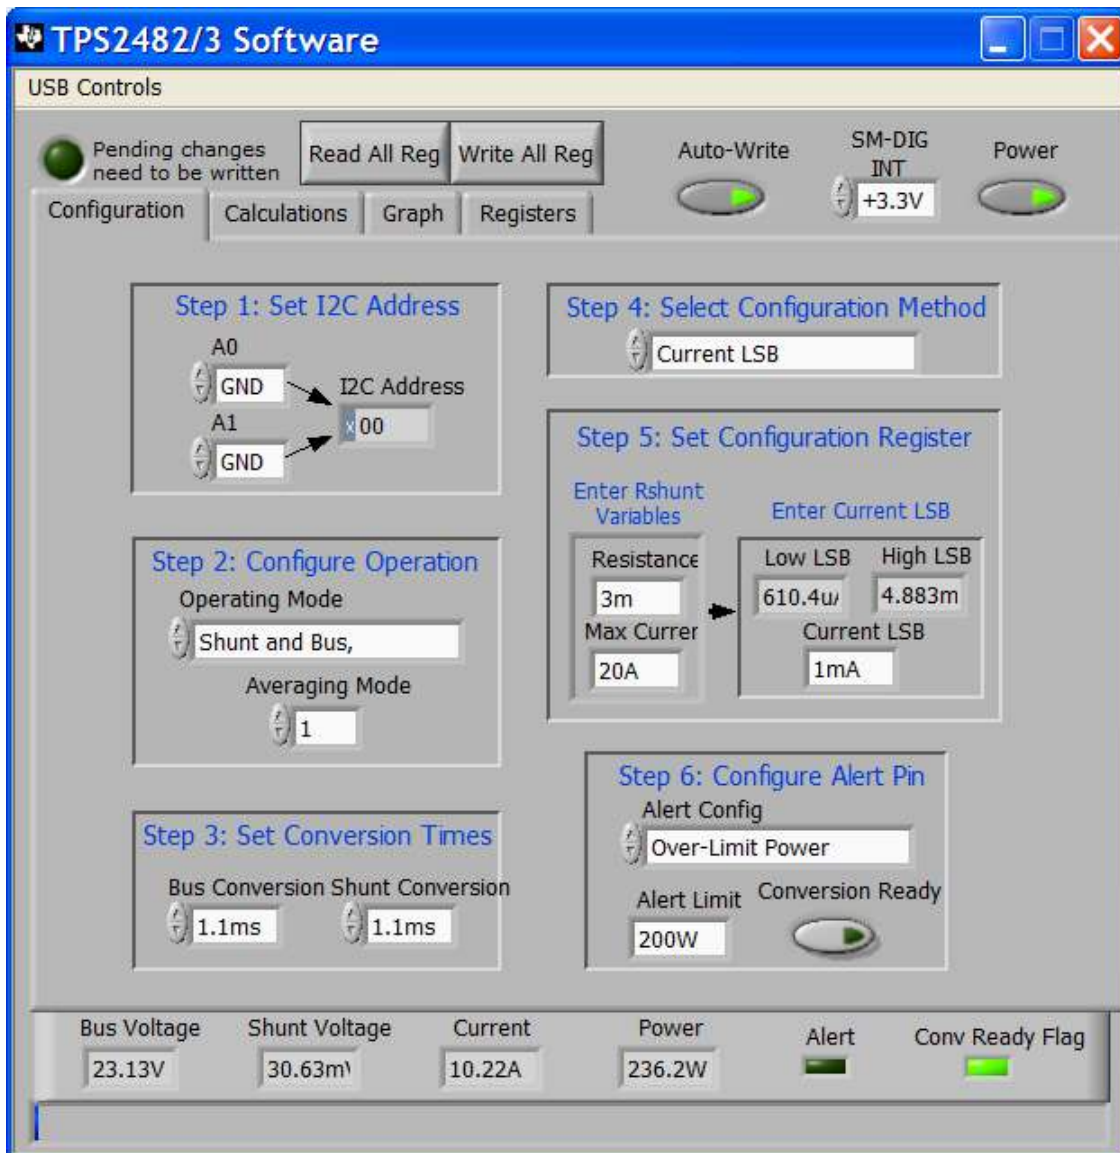

Figure 4. TPS2482 and TPS2483 GUI Calibrate Form
- In the Configure Alert Pin field, click the Alert Config Up/Down arrow until the appropriate alert pin status is active as shown in Figure 4. In the Alert Limit box, enter the appropriate value and press the PC enter key. Verify that the ALERT LED (D5) on the EVM is ON or OFF as appropriate.